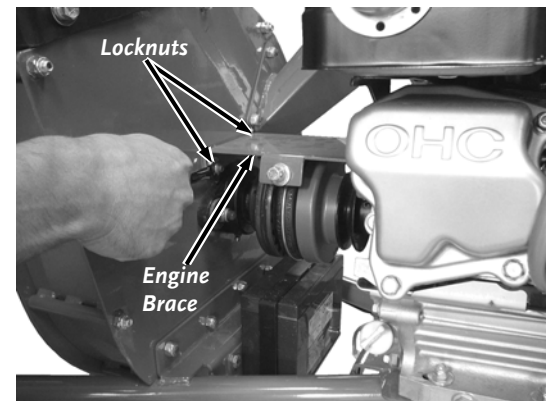

Figure 49
4. Remove the two Locknuts that secure the front side of the Engine Brace to the Impeller Housing with a 1/2" Wrench (**Figure 49**).